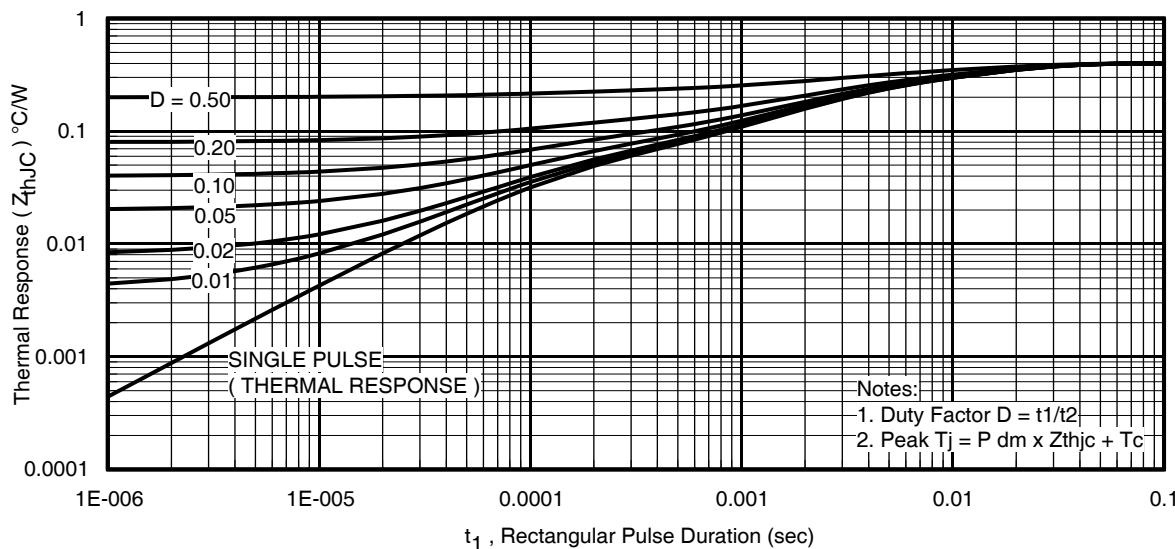

Fig 14. Maximum Effective Transient Thermal Impedance, Junction-to-Case
| I_{AR} | Avalanche Current ② | See Fig 14, 15, 23a, 23b | A |
Notes on Repetitive Avalanche Curves , Figures 14, 15: (For further info, see AN-1005 at www.irf.com)
7. ΔT = Allowable rise in junction temperature, not to exceed T_{jmax} (assumed as 25°C in Figure 14, 15).